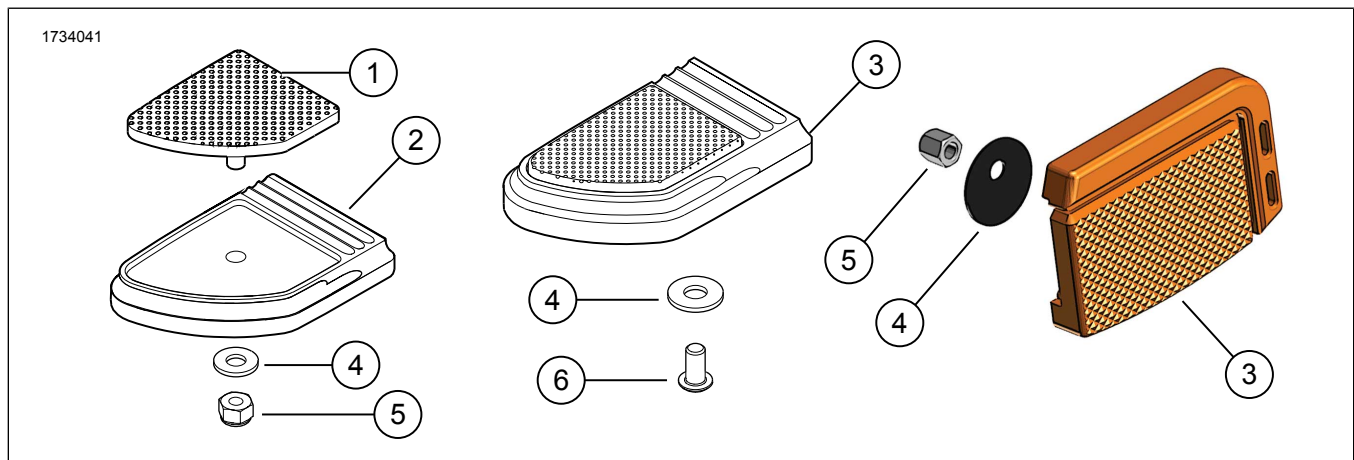

Figure 1. Kit Contents: Brake Pedal Pad Kit
1. See Figure 1. Align **new** brake pedal pad (1) with recess in trim cover (2).
3. Install washer (4) onto threaded stud.
4. Install 1/4-20 hex locknut (5) onto threaded stud. Tighten.
1. See Figure 1. Align **new** brake pedal assembly (3) with vehicle foot brake lever.
2. Apply threadlocker to screw (6).